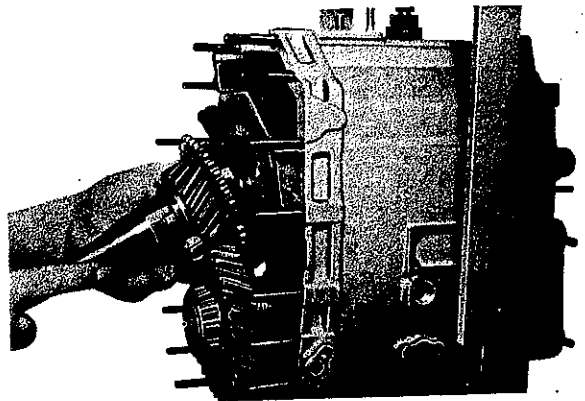

Fig. 46
2. Place blocking ring (402) and cam cage (401) on journal of main shaft. Slide input shaft (208) over cam cage (Fig. 46).